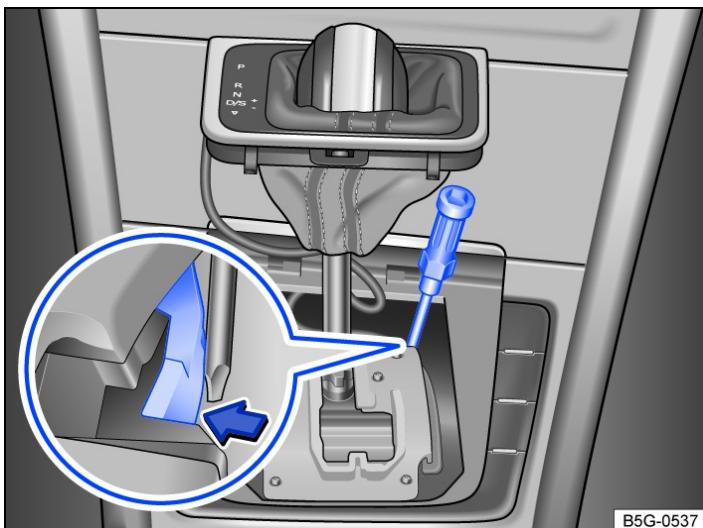

Fig. 1 Manually release selector lever lock (variant 1)
- Using the flat blade of the screwdriver from the vehicle toolkit, carefully push the release lever in the direction of the arrow → Fig. 1 and keep it in this position (variant 1).